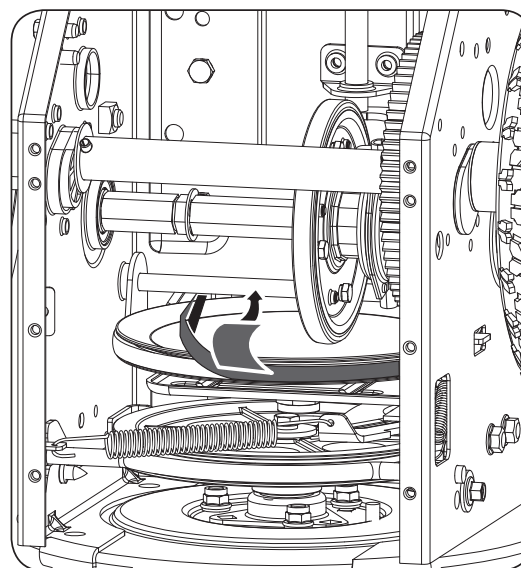

Figure 18b
6. You must push down the friction wheel disc a bit by hand. Then slip the drive belt off the pulley and between friction wheel and friction wheel disc. (See **Figure 18b**)